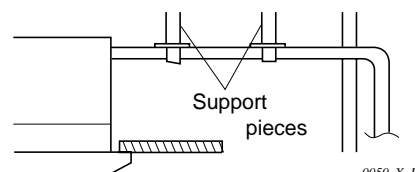

Fig. 2-11
- Do not apply force to the piping on the unit side when connecting the drain pipe. The pipe should not be allowed to hang unsupported from its connection to the unit. Fasten the pipe to a wall, frame, or other support as close to the unit as possible. (Fig. 2-11)